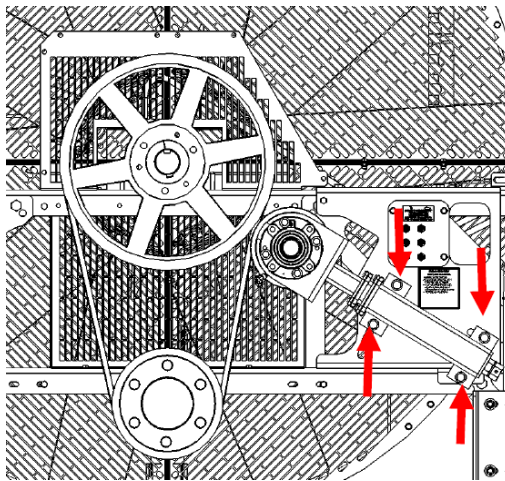

Figure 34: Tensioner in shipping position
F.) Tensioner Adjustment (Fig 34 & 35)
2. On some units, IEA ships the radiator with the tensioner away from the working location. Loosen bolts holding tensioner in place. Nuts only need to be loose enough to allow movement. Refer to Fig 34 below.